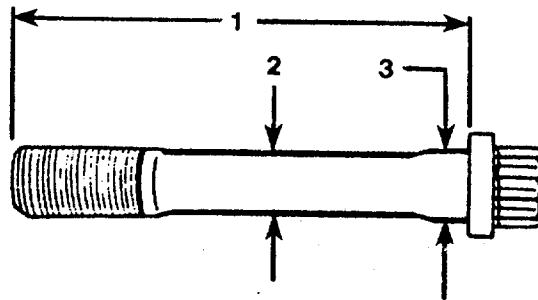

FIGURE 4-67. Capscrew Measurement.
- (5) Measure the connecting rod capscrew in the locations shown in FIG. 4-67. Replace the capscrew if it is not to the following specifications: